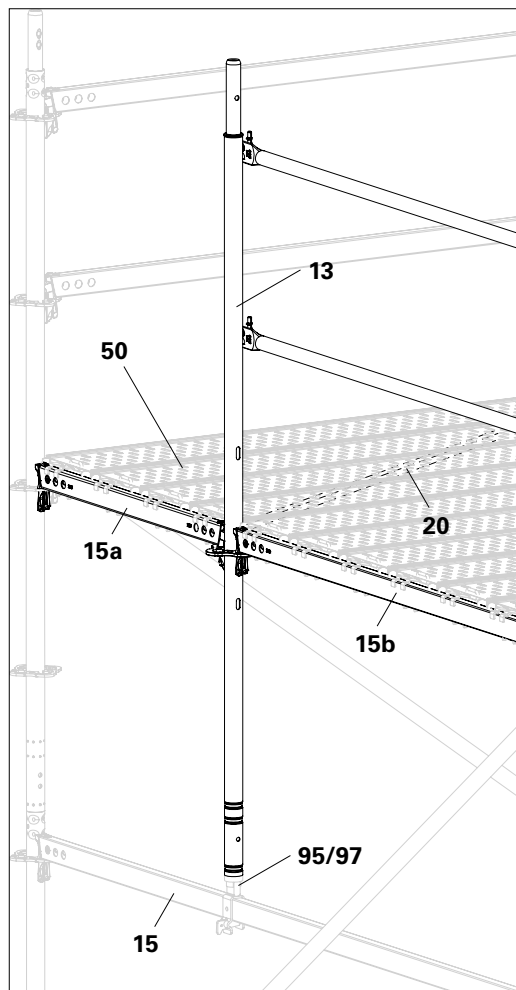

Fig. A11.14
2. Install 2 suitable ledgers (**15a + 15b**) at platform level. (Fig. A11.14)